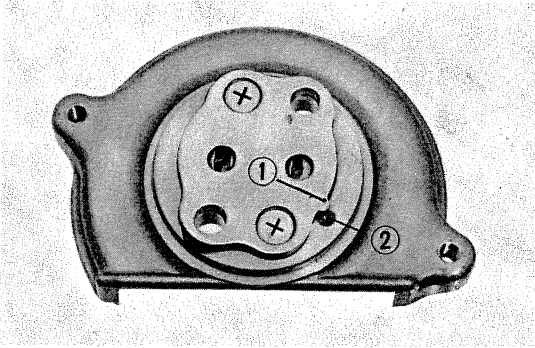

Fig. 60 ① Convex ② Concave
① 16mm lock nut
- 1) Perform the reassembly in the reverse order of disassembly. Align the concave part on the oil pump to the convex part on the oil pump plate and install (Fig. 60)